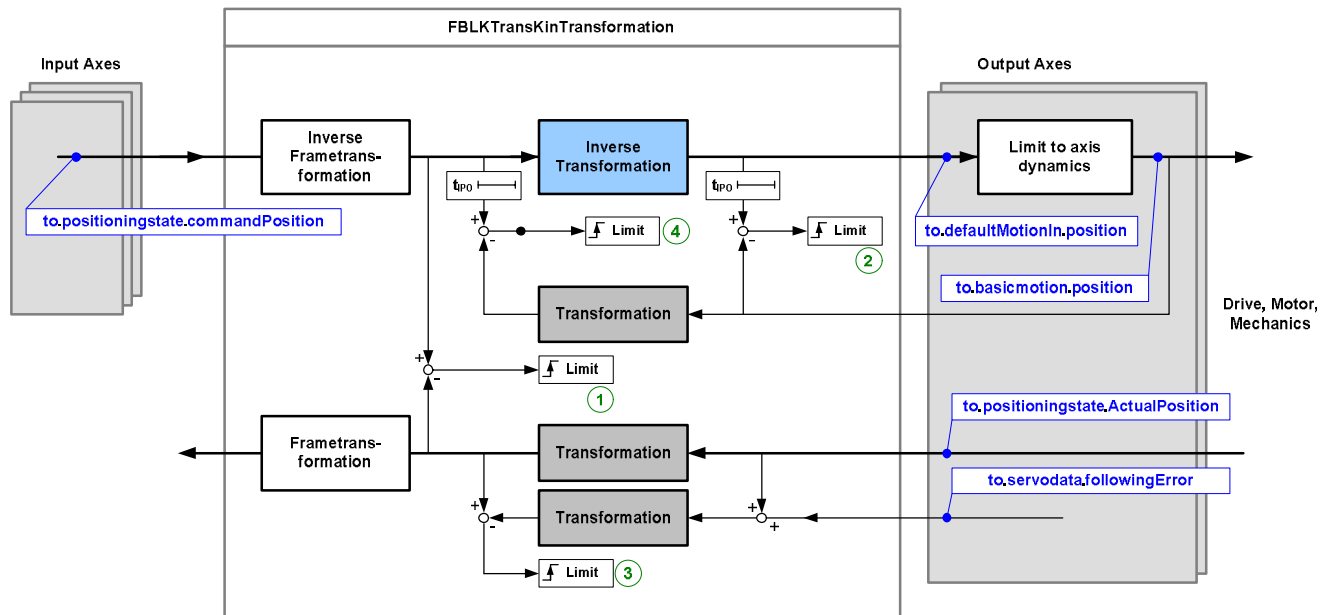

Fig. 6-11: Overview of FBLKTransKinTransformation with monitoring functions
- Monitoring of the current path deviation (marked with 1 in Fig. 6-11, details are described in Section 6.2.8.1)
- Monitoring of the path setpoint deviation (marked with 4 in Fig. 6-11, details are described in Section 6.2.8.2)
- Monitoring of the path following error (marked with 3 in Fig. 6-11, details are described in Section 6.2.8.3)
- Monitoring of the axis setpoint (marked with 2 in Fig. 6-11, details are described in Section 6.2.8.4)